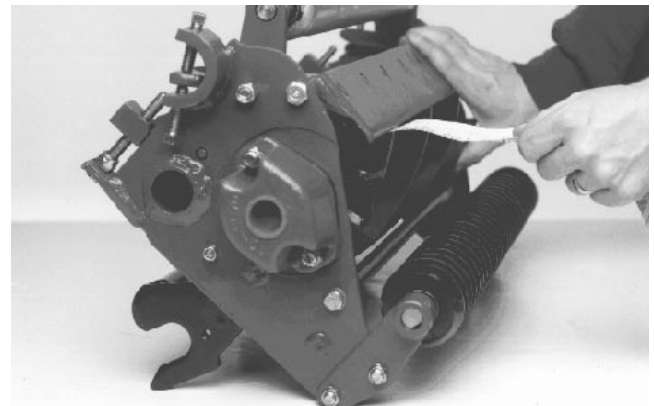

Figure 9
3. After adjustment, check to see if reel can pinch paper when inserted from the front, and cut paper when inserted at a right angle (Fig. 9). It should be possible to cut paper with minimum contact between the bedknife and reel blades. Should excessive reel drag be necessary to cut paper (more than 7 in-lb) it **will** be necessary to either back lap or grind the cutting unit to achieve the sharp edges needed for precision cutting.